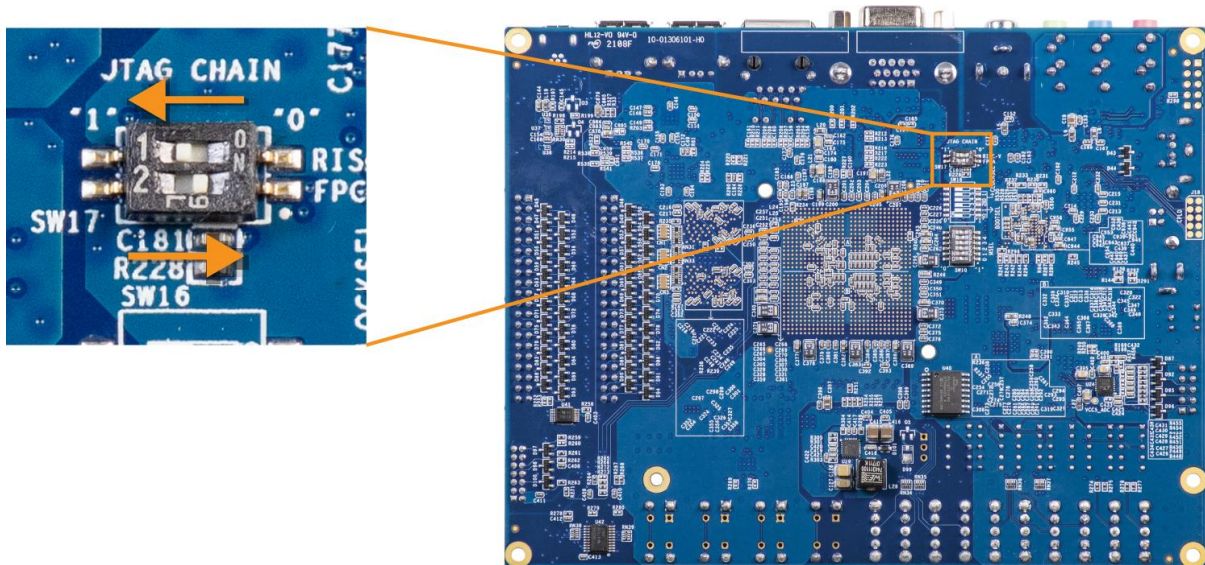
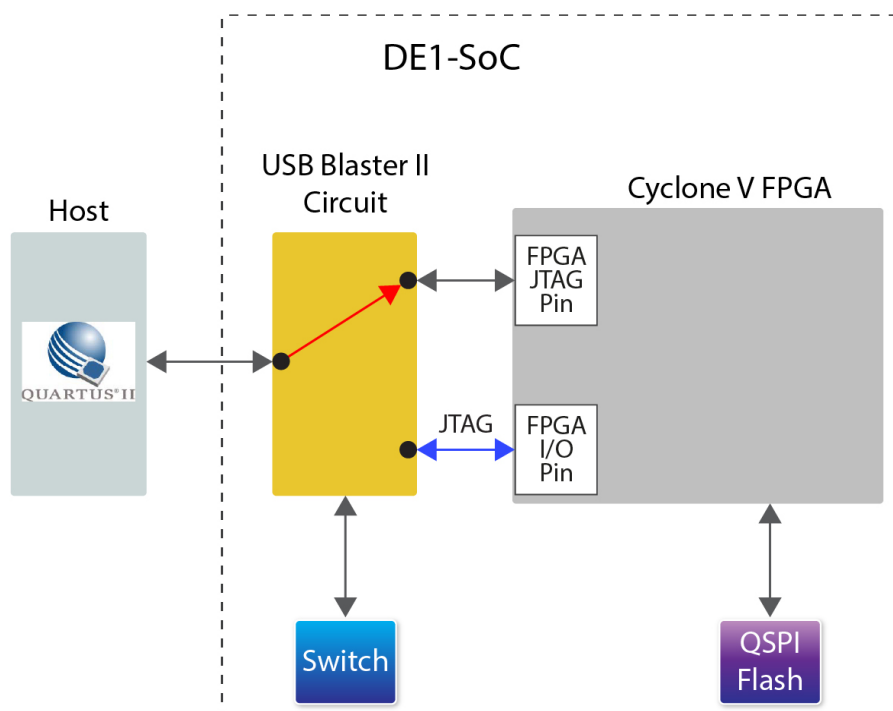

Figure 3-4 The JTAG Switch for Cyclone V SoC FPGA and RISC-V
Figure 3-5 The JTAG chain is switched to Cyclone V SoC FPGA
**Figure 3-4** shows the factory settings of the SW17. The SW17.1 position is used for enable/disable the Cyclone V SoC FPGA in the JTAG chain. When set to “1” position, the JTAG interface of the UB2 circuit will be connected to the JTAG pin of the Cyclone V SoC FPGA (See **Figure 3-5**), so the Cyclone V SoC FPGA will appear in the JTAG chain of DE1-SoC.